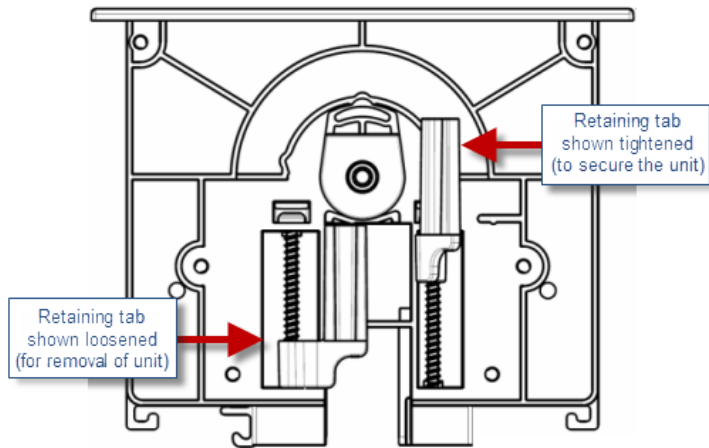

FIG. 5 HYDRAPORT BASE ASSEMBLY (SHOWN MOUNTED) - MOUNTING SCREWS LOCATIONS
FIG. 5 provides a cutaway view of the End Cap, showing the retaining tabs in both the loose position and the tightened (secure) position:
- Tighten the four mounting screws (loosened in Step 1, see FIG. 5) located inside and at each end of the HydraPort base assembly, to rotate the retaining tabs into locking position under the mounting surface.